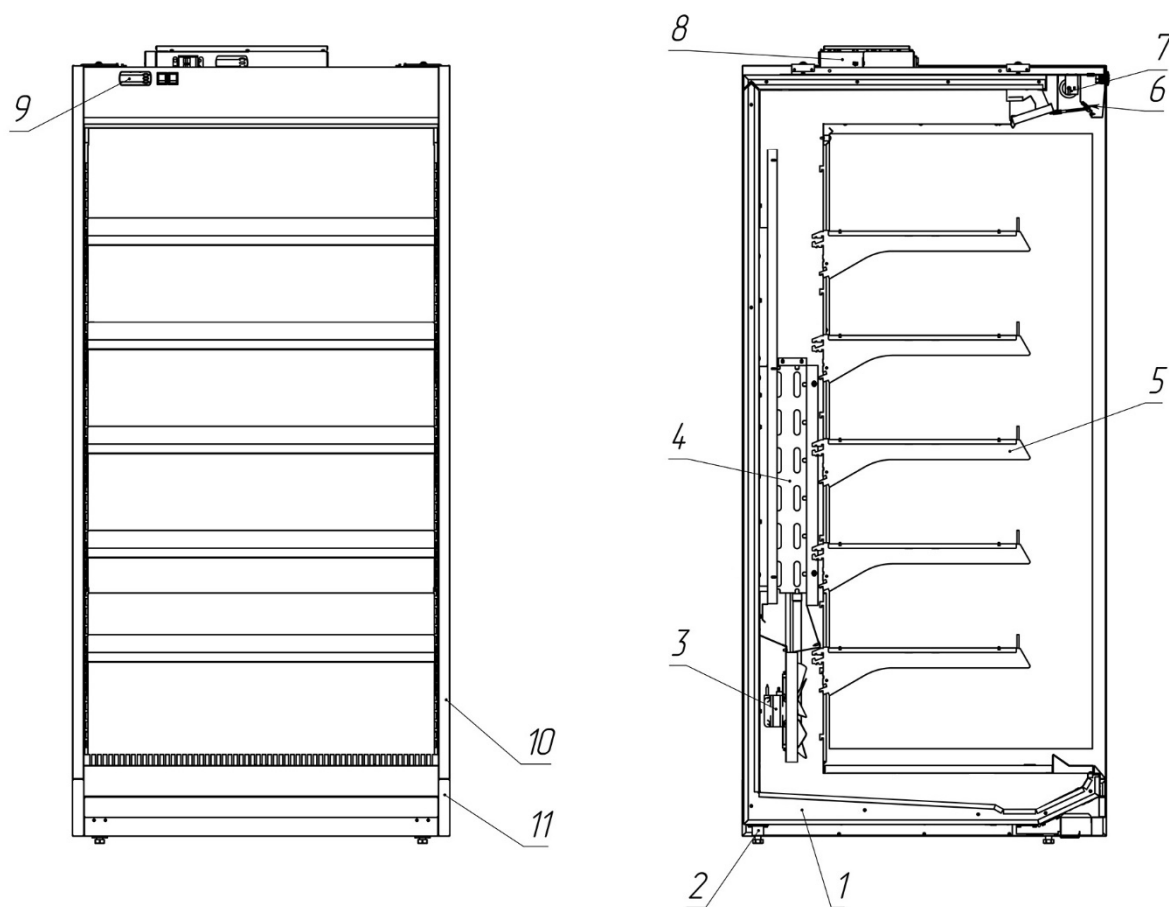

Figure 2 – Arrangement of major units and components
- set the power circuit-breaker on the control panel (pos. 6 Fig. 2) to the position corresponding to “ON”. Turn on the lighting switch;